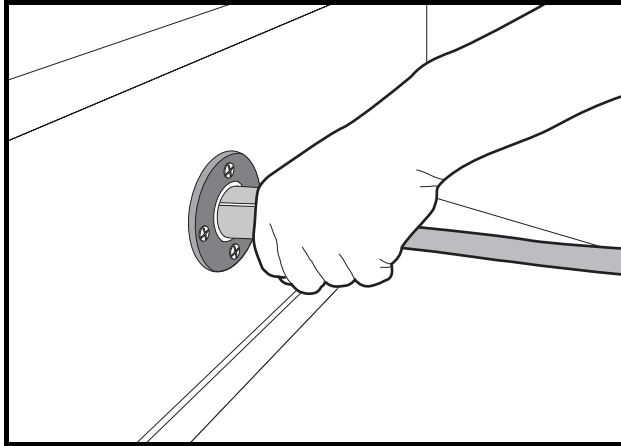
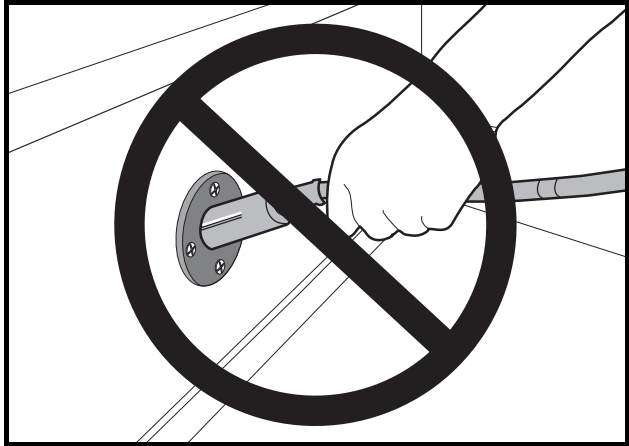

Figure 3-8 Charger Receptacle
Figure 3-9 Incorrect DC Plug Removal
- The battery charger DC plug must be pulled slowly from the receptacle (Figure 3-8, Page 3-10). Jerking or pulling the DC cord out quickly could cause arcing that could damage the plug and receptacle and could cause batteries to explode (Figure 3-9, Page 3-10).
- Do not rock or bend the plug. To connect the charger plug to the vehicle receptacle, grasp the plug handle and push the plug straight into the receptacle (Figure 3-8, Page 3-10).
- Do not pull on the DC cord (Figure 3-9, Page 3-10). Do not twist, rock or bend the plug. To disconnect the charger plug from the vehicle receptacle, grasp the plug by the handle and pull the plug straight out of the receptacle.
2. Connect the charger DC plug to the vehicle charger receptacle located on the seat support panel (Figure 3-8, Page 3-10). The charger will activate automatically within 2 to 15 seconds after the DC plug is connected. **See following WARNING.**
- **Do not rock or bend the DC plug. To connect the charger plug to the vehicle receptacle, grasp the plug handle and push the plug straight into the receptacle (Figure 3-8, Page 3-10).**